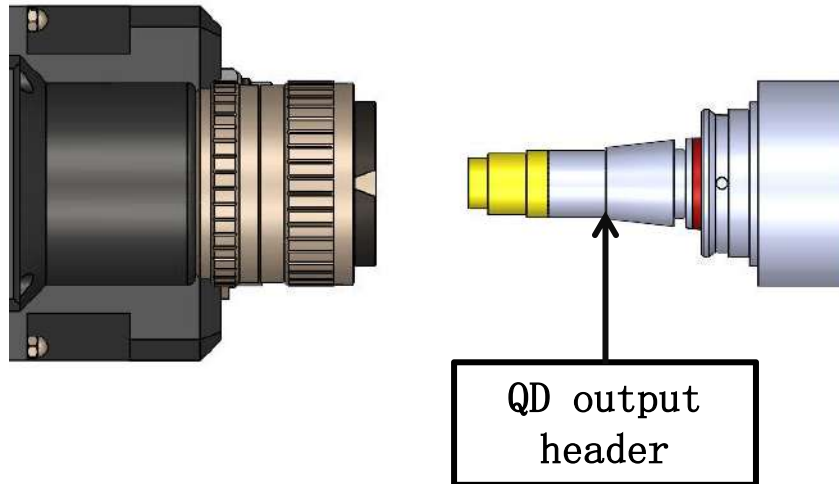

Figure 2.1
① Connection of signal line CAN bus
② Functions of bus box
- ① Place the cutting head horizontally, remove the dust cover, and tear off the dust sticker; As shown in Figure 2.1 below